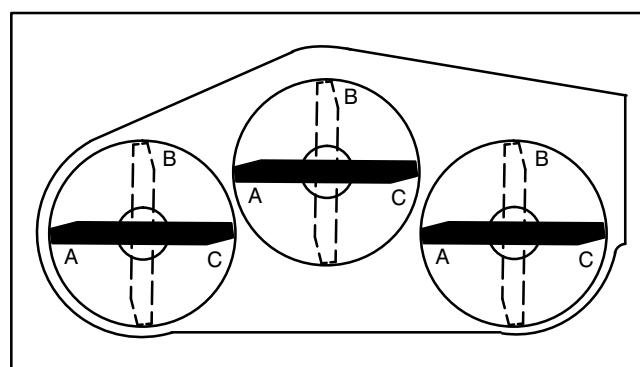
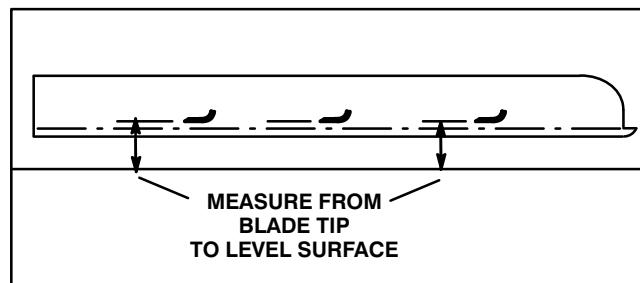

Figure 34
Figure 35
CORRECTING CUTTING UNIT MISMATCH (Fig. 34–35)
- Position all three blades in the "A" position (Fig. 34) and measure from level surface to the bottom of the tip end of each blade (Fig. 35).
- Note measurement attained at "A", rotate blades to "B" position (Fig. 34), measure distance of all blades to level surface and note dimensions (Fig. 35).
- Rotate blades to "C" position, measure and note distance measured (Fig. 34, 35).